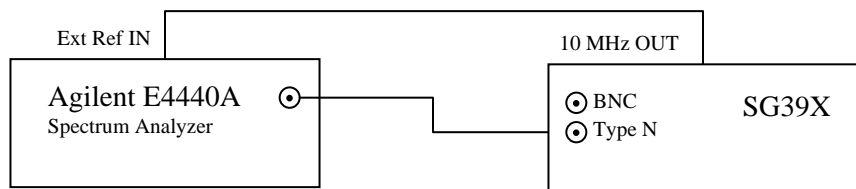

Figure 71: Setup for frequency generation tests.
Frequency generation tests verify that basic frequency synthesis of the device under test is operating correctly. This is accomplished by measuring the output frequency of the SG390 series generator at several specific frequencies from DC to 6 GHz. The specific frequencies selected in the test guarantee that all crystals within the device under test are functioning properly and that all phase locked loops are locked and stable. The Agilent E4440A PSA spectrum analyzer is used to verify frequency synthesis. This test requires the setup shown in Figure 71.
1. Connect the equipment as shown in Figure 71